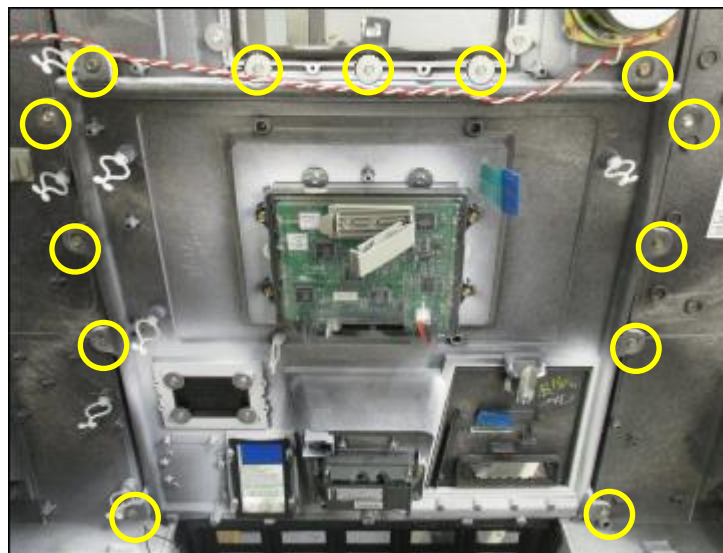

Fig 1.15 – Location of CIM Panel screws
- 17.** Remove and discard the three #6 self-tapping screws and washers immediately below the CIM panel Display Window, and the 10 #6-1/2" self-tapping screws fastening the CIM panel to the Dispenser Door. (Fig 1.15)